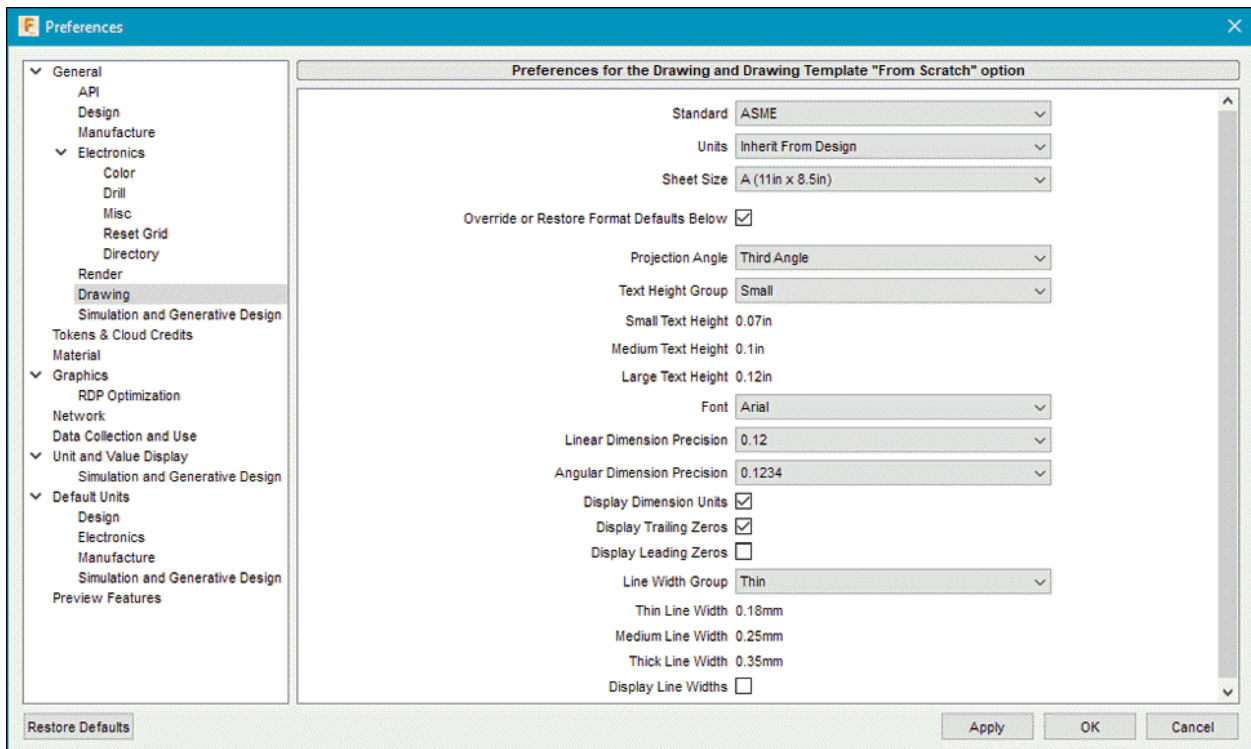

Figure-141. Specifying drawing preferences
- Set the parameters as shown in Figure-141 for preference.